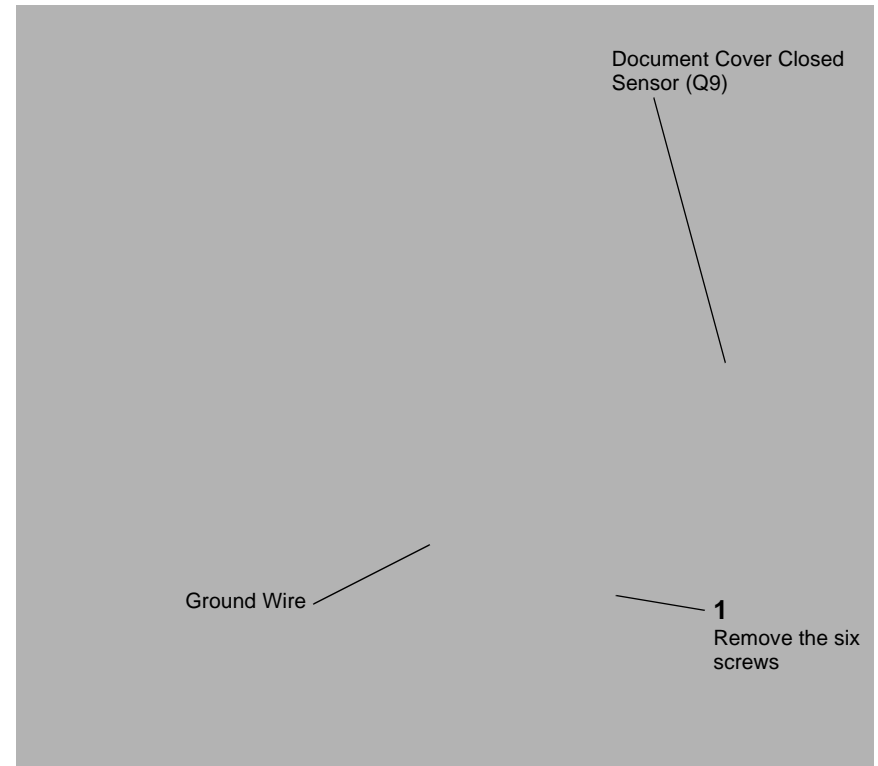

Figure 2 Removing the PWB Cover
3. (Figure 2): Remove the PWB Cover.